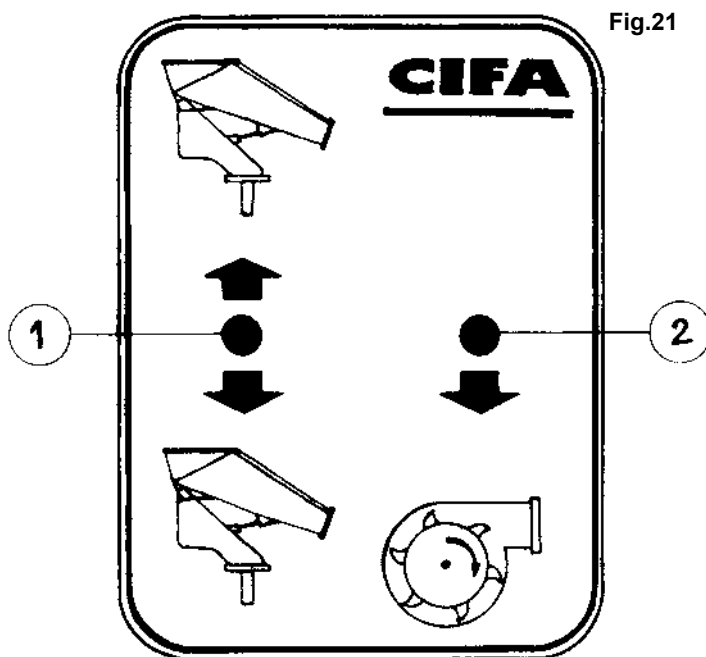

Fig.21
**4.5 OBSŁUGA DYSTRYBUTORA (RYS. 21)**